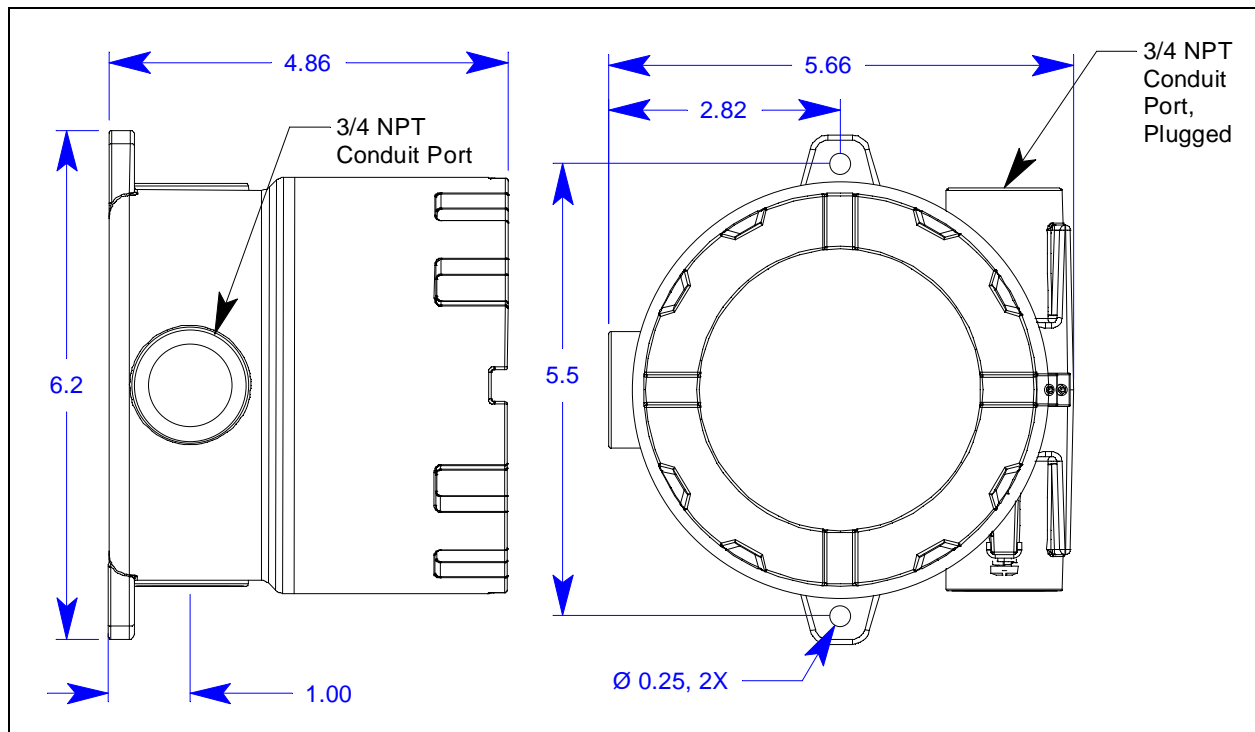
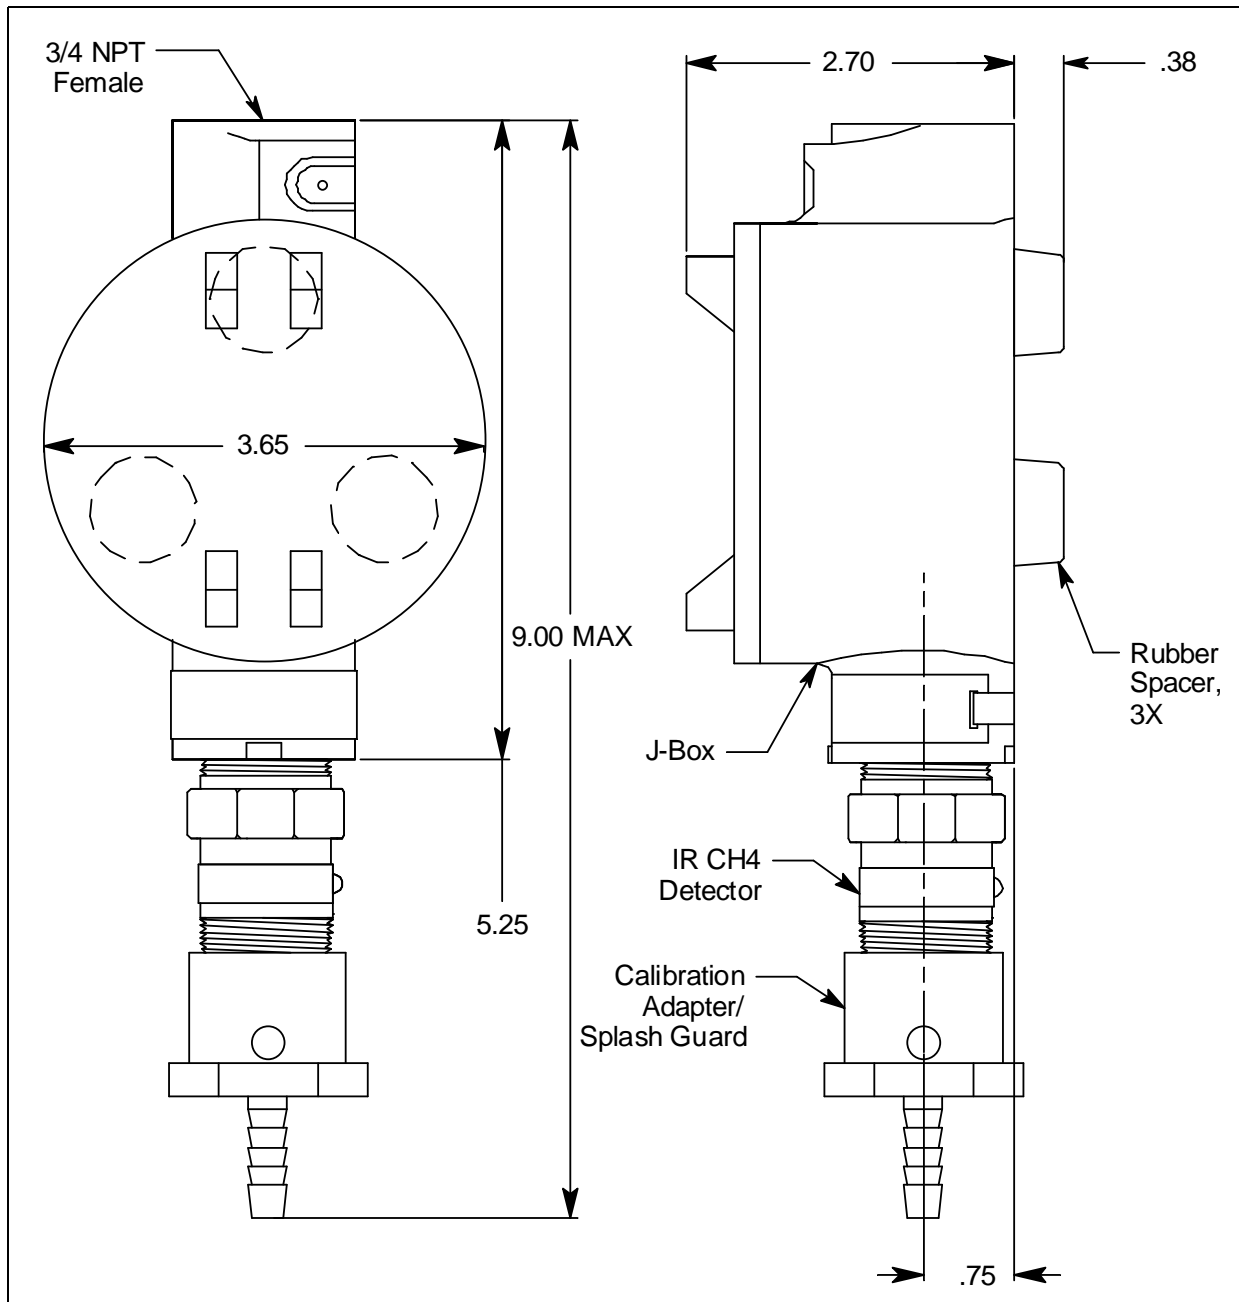

Figure 5: Outline & Mounting Dimensions, M2A-XL Junction Box
Figure 6: Outline & Mounting Dimensions, Detector Junction Box
2. Use #10 screws through the M2A-XL junction box's two mounting holes to secure the junction box to a vertical surface. Figure 5 shows the outline and mounting dimensions the M2A-XL junction box. Figure 6 shows the outline and mounting dimensions for the detector junction box. Mount the detector junction box with the detector facing down as shown in Figure 6.